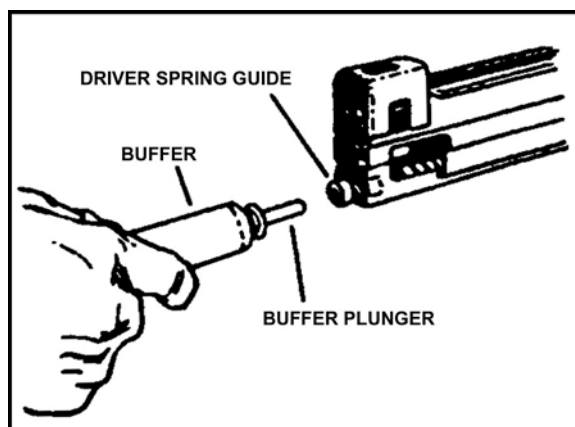

Figure 3. Buffer.
- (2) Remove the buffer yoke from the top of the receiver.
- (3) Remove the buffer slowly by pulling it rearward. Allow the driver spring guide to expand until the end of the guide is showing at the rear of the receiver.
- (4) Pull the buffer plunger from the driver spring guide (Figure 3).